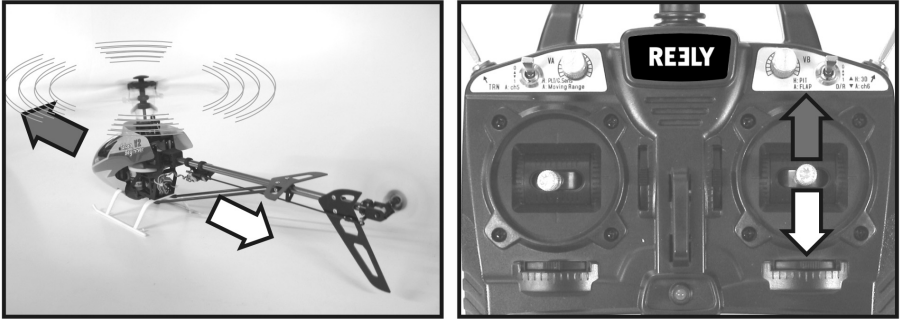

Figure 26
The nod function allows you to move your model helicopter forward and backward (see figure 26). This is also controlled with the right control stick (also see figure 1, item 6).